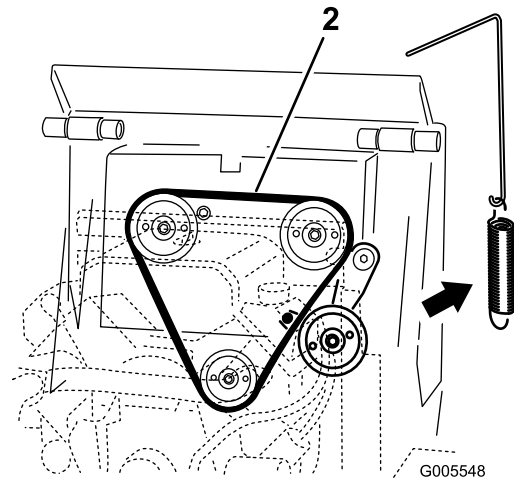

Figure 48
4. Remove the idler pulley spring from the idler pulley assembly (Figure 48).
6. Install a new drive belt around the three pulleys (Figure 48).